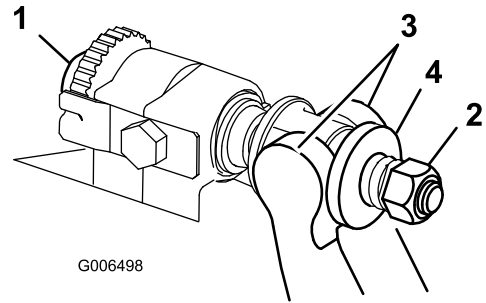

Figure 29
1. Turn the bedbar-adjusting screws counterclockwise to back the bedknife away from the reel (Figure 29).
2. Back out the spring-tension nut, until the washer is no longer tensioned against the bedbar (Figure 29).